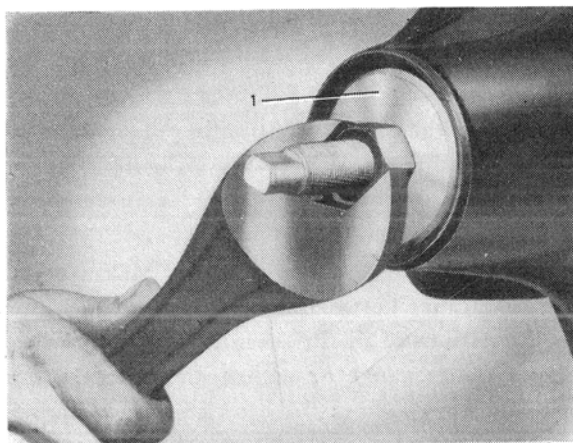

Fig. 33. Fitting the bearing rings.
3. Replace the same number of shims (25) for the rear pinion bearing outer ring as were there when disassembly was carried out into the housing and then press in the outer rings using press tool SVO 2206 as shown in fig. 33. Make sure that the rings do not chafe or are not at an angle in the housing.